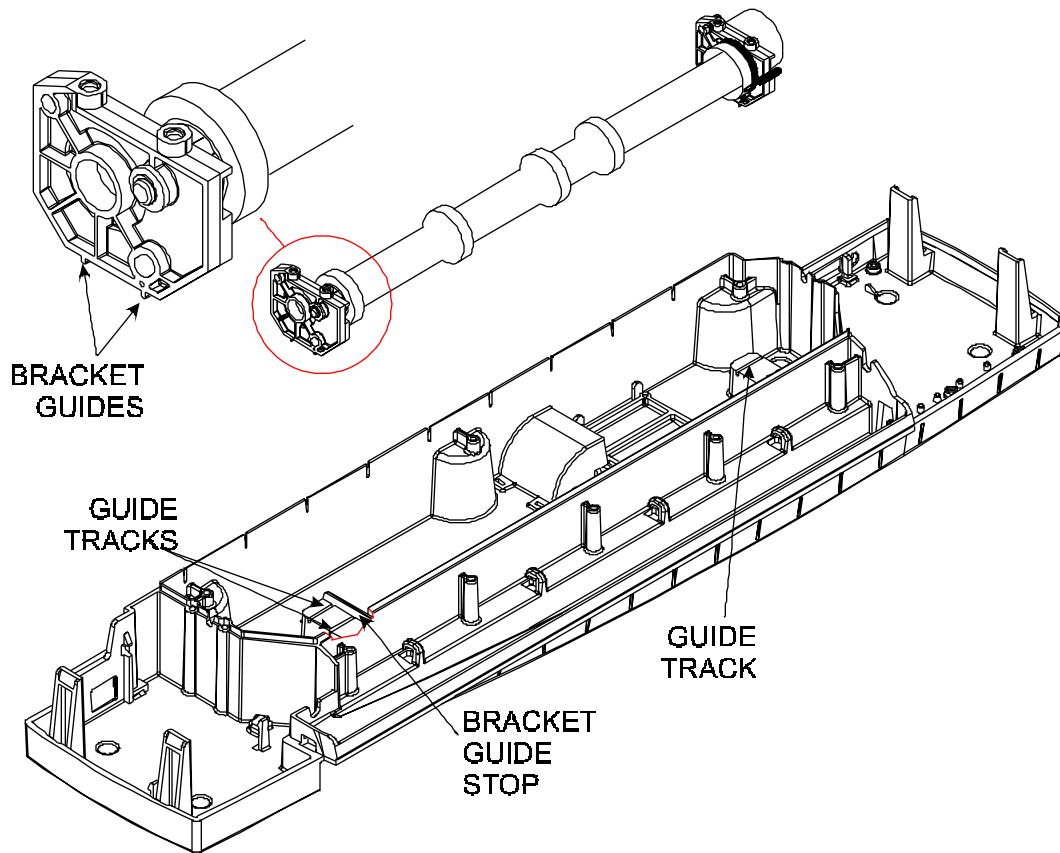

Figure 5-16. Installing Lower Roller Assembly.
3. Lower the Lower Roller Assembly into the Base of the printer by aligning the bracket guides with the base guide tracks. See Figure 5-16.